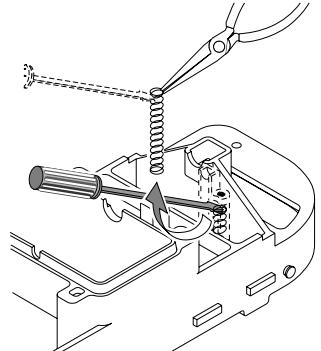

Figure 22
7. With a small screwdriver (such as a jeweler's screwdriver), a pencil, or a pen point, depress and remove the coil spring from the lift brush mounting post (Figure 22). Replace the brush and the spring if necessary.